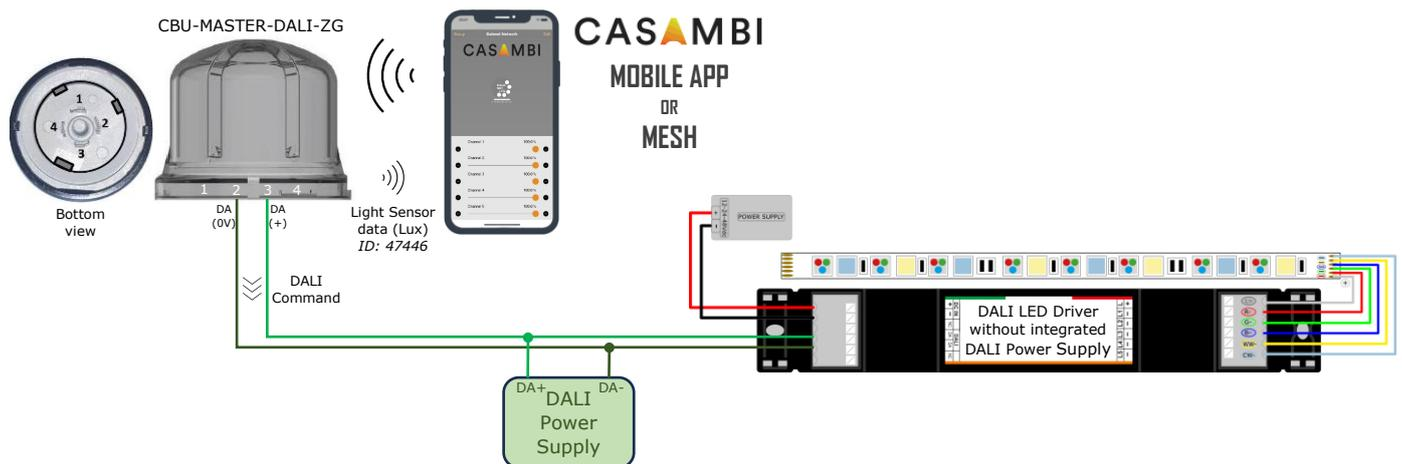

Figure 2: Wiring diagram for LED Driver with external DALI Power Supply
3. **DALI Power Supply (if required):** wire a DALI Power Supply on DALI bus if the DALI LED driver (or no other device inside the DALI network) does not provide bus supply (refer to Figure 2).